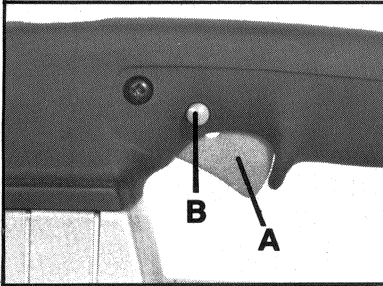

Fig. 2
1. Squeeze trigger switch (A) Fig. 2, to start motor. Release trigger to stop motor.
2. Lock Button—A lock button (B) Fig. 2 is provided to keep the saw running without holding the switch trigger "ON". To lock the switch trigger "ON", squeeze the trigger as far as it will go and push in the lock button and release trigger.